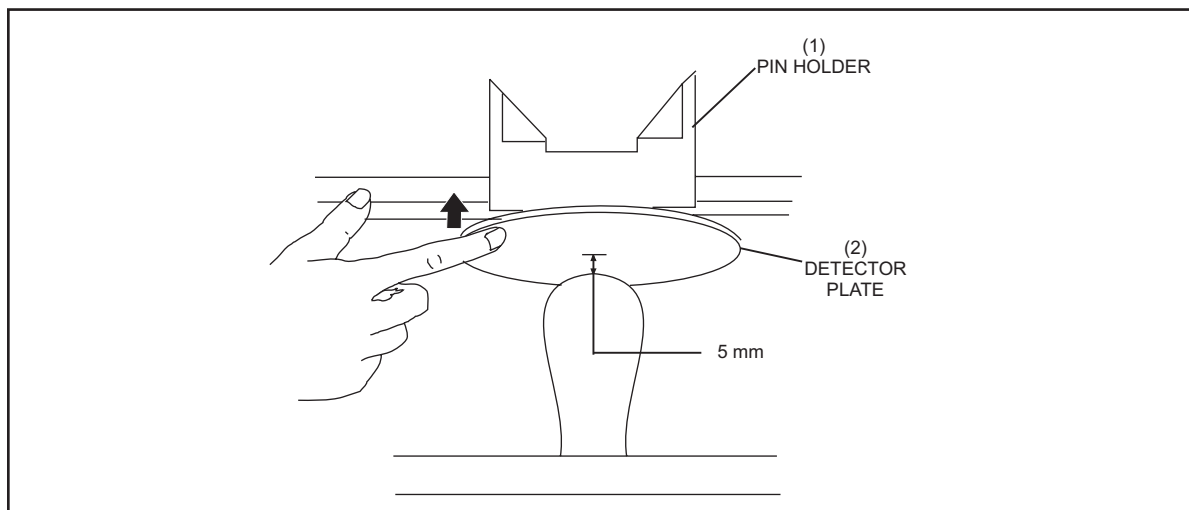

Figure 5-41. Pin Detector Plate Clearance.
3. With the pin detector plate held up manually to the highest point, check for a clearance of 5 mm between the top of the pin and the center of the pin detector plate. Refer to *Figure 5-41*.